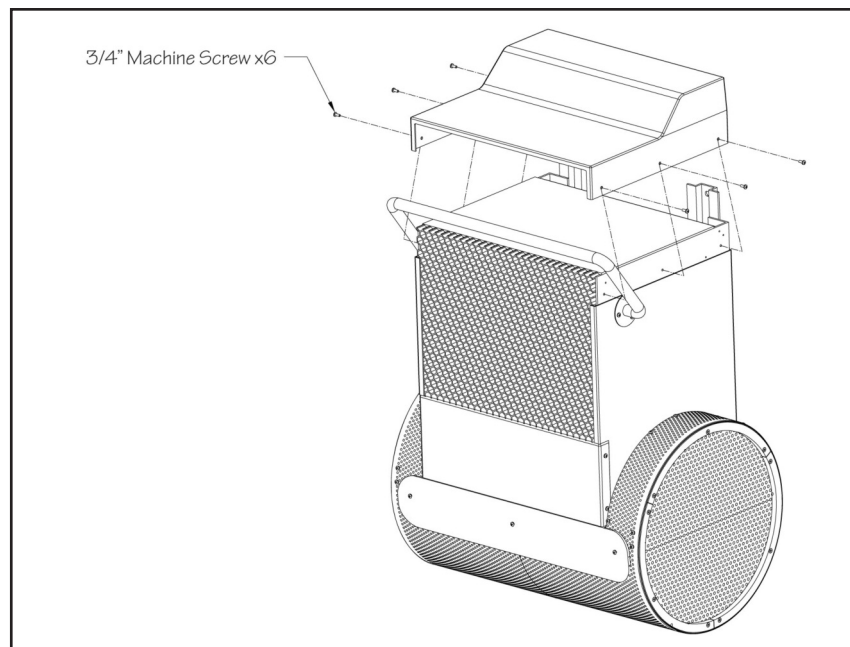

Fig. 6.12
- 6.14 Once the Fastlane is installed in the pool, place the housing lid onto the housing and use the provided screws to attach. There will be three screws per side, for a total of six (Fig 6.12).
- 9.6 Place the Fastlane lid onto the top of the Fastlane and use the six 3/4" machine screws that were provided (3 on each side) (See Fig 6.12).